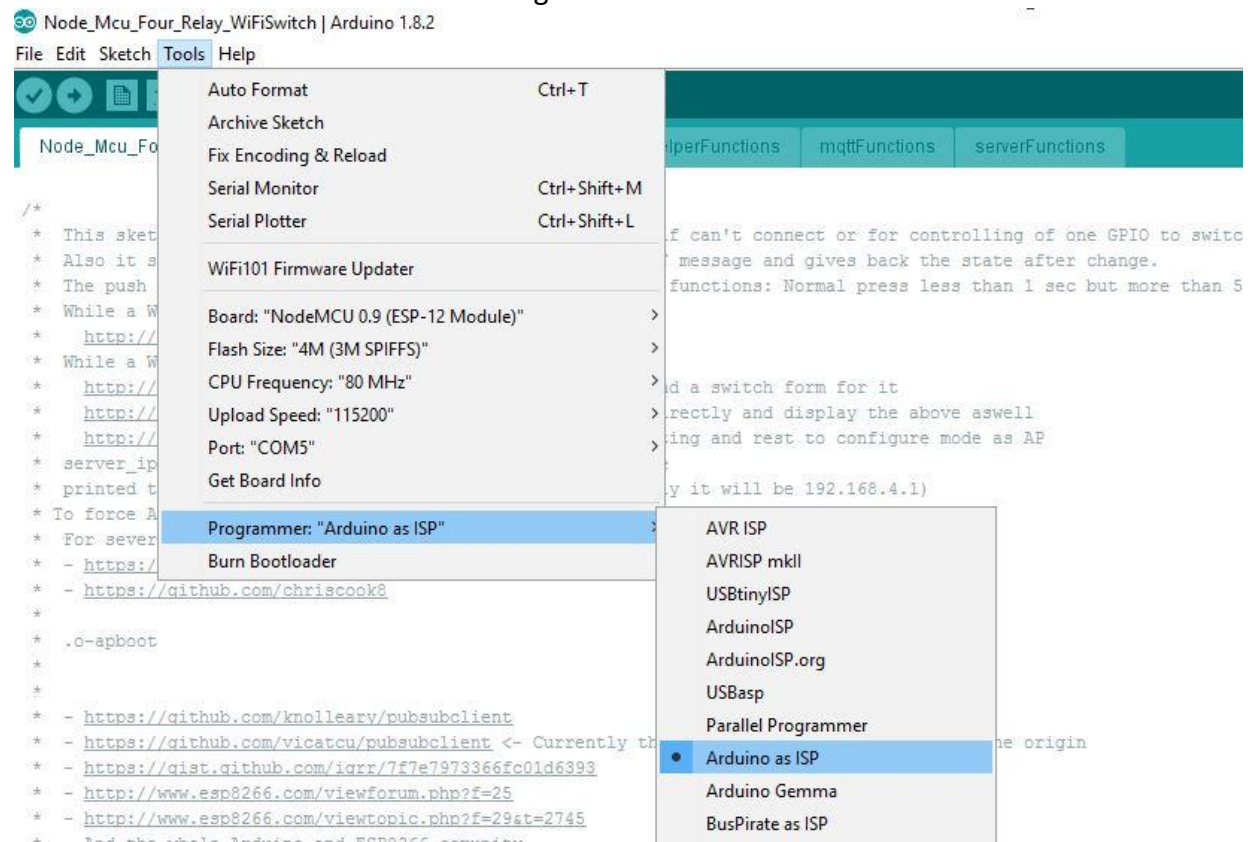

Figure 13: IDE Selection
10. Click on tools tab, move mouse pointer to “Programmer: “Arduino as ISP””, under this click on “Arduino as ISP” to select. Refer to figure 13.